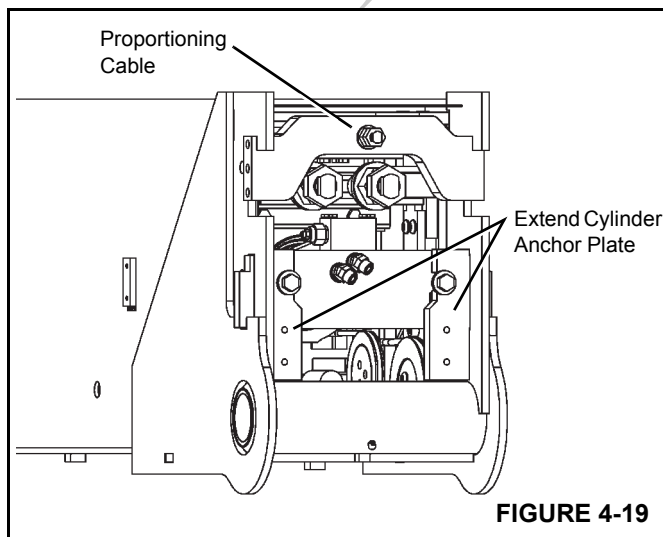

FIGURE 4-19
7. Thread the proportioning cable through anchor plate and install the anchor plate (Figure 4-19) in the following order: